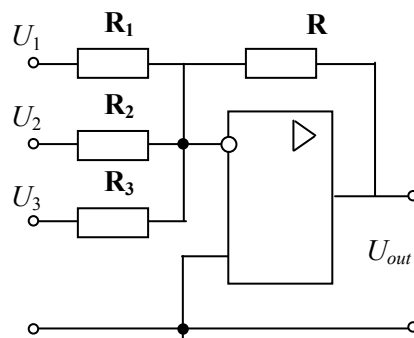

Fig. 2.35
**Summer and subtracter.** Fig. 2.35 shows the simplest math converter – an op amp *summing amplifier*, named also *summer* or *adder*. The output of this circuit is the sum of the input voltages